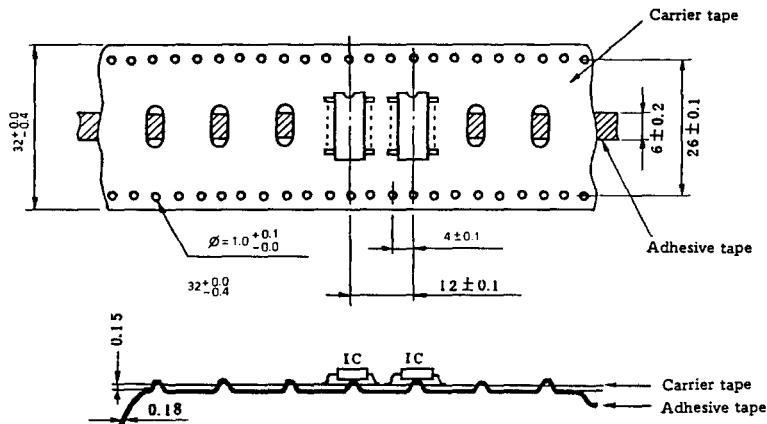

Fig. 6-2 Taping
- (1) Tape shape and dimensions (Fig. 6-2)